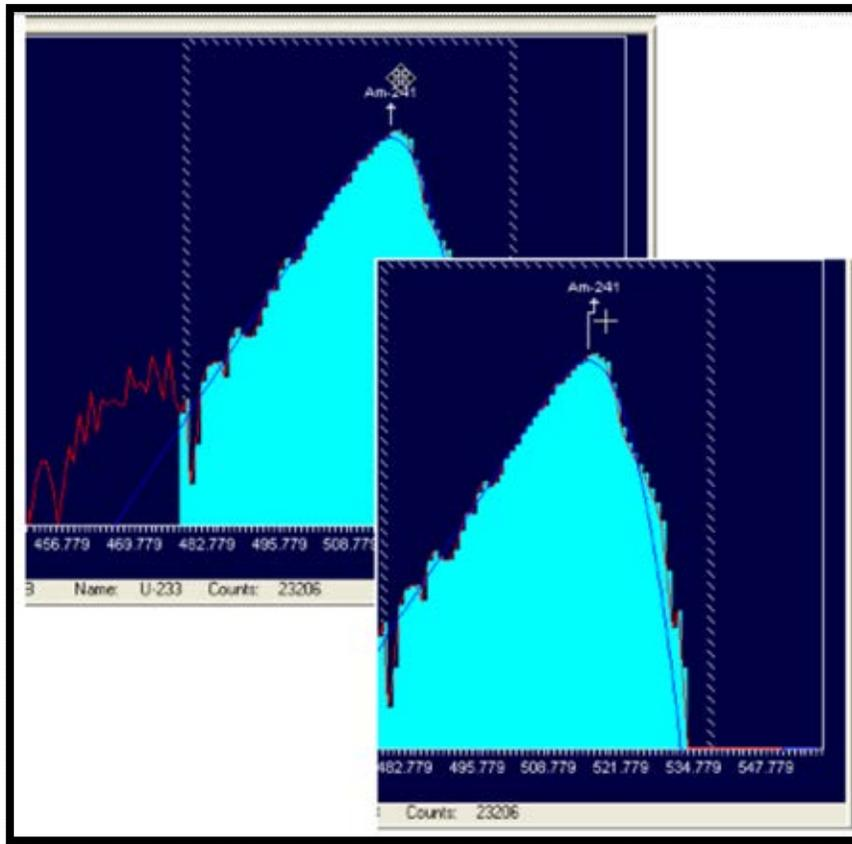

Figure 48. Click and Drag the Four-Sided Arrow to Reposition the Centroid, If Necessary
- 4) Next, reposition the centroid, if necessary, by rolling the mouse pointer over the small centroid marker until the pointer changes to a four-sided arrow (Figure 48), then click and drag to the new centroid position. The centroid marker will now indicate the new position ().